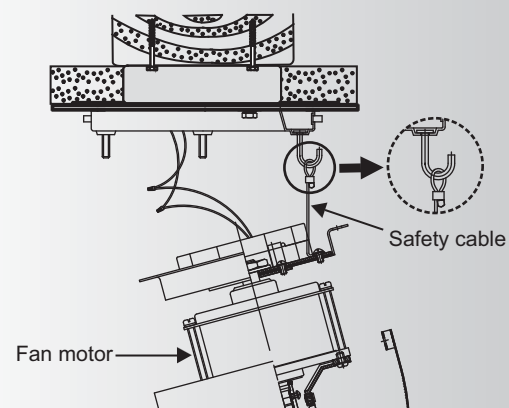

Fig. 6
Step 2. Hang the fan motor assembly and use the safety cable attached to the mounting plate. This will allow you to use both hands while make the electrical connections. (Fig. 6)